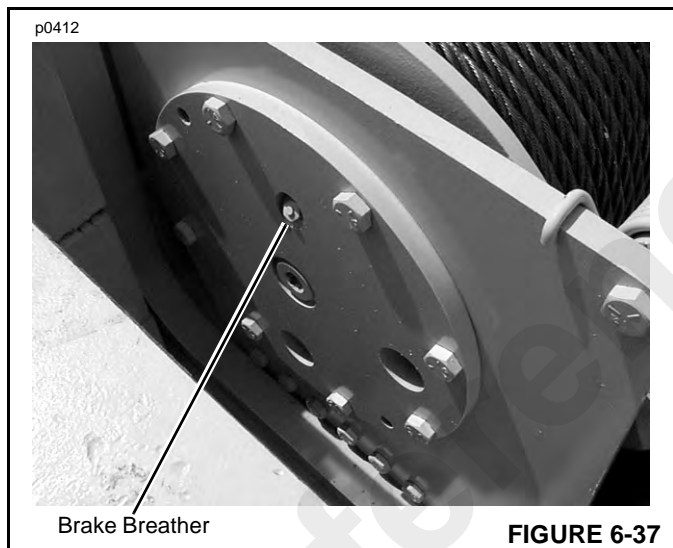

FIGURE 6-37
3. Place the container under the drain plug and remove the drain plug (Figure 6-37). Drain any oil left in the transmission into the container. Install the drain plug.